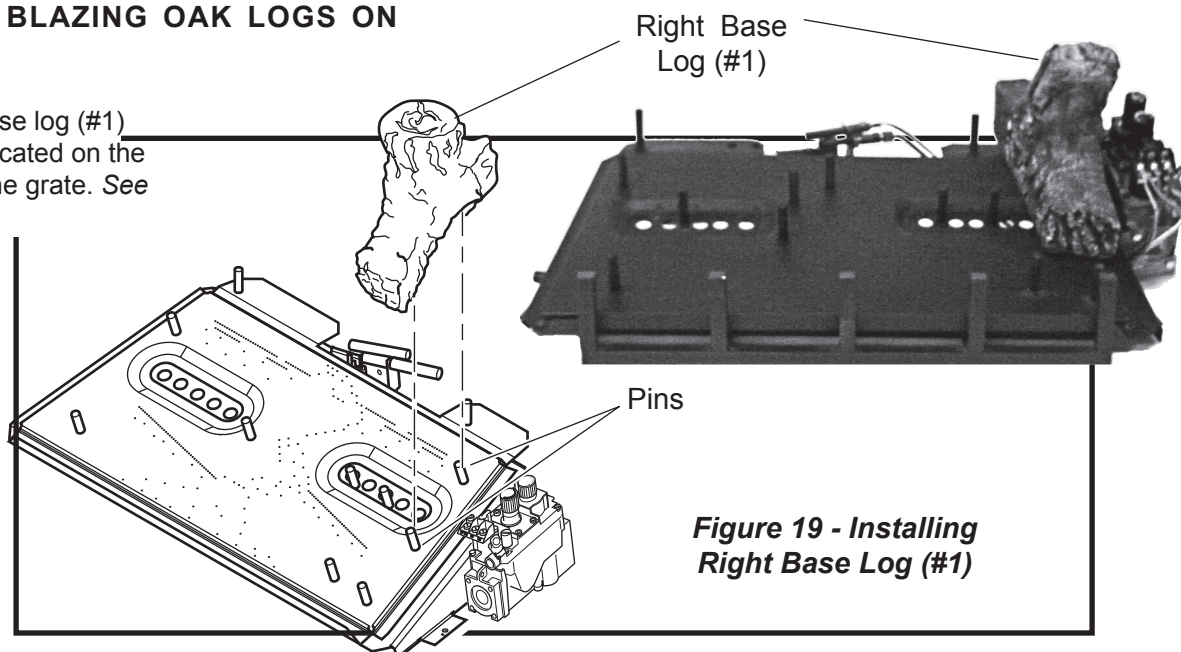

Figure 19 - Installing Right Base Log (#1)
1. Place right base log (#1) on two pins located on the right side of the grate. See Figure 19.